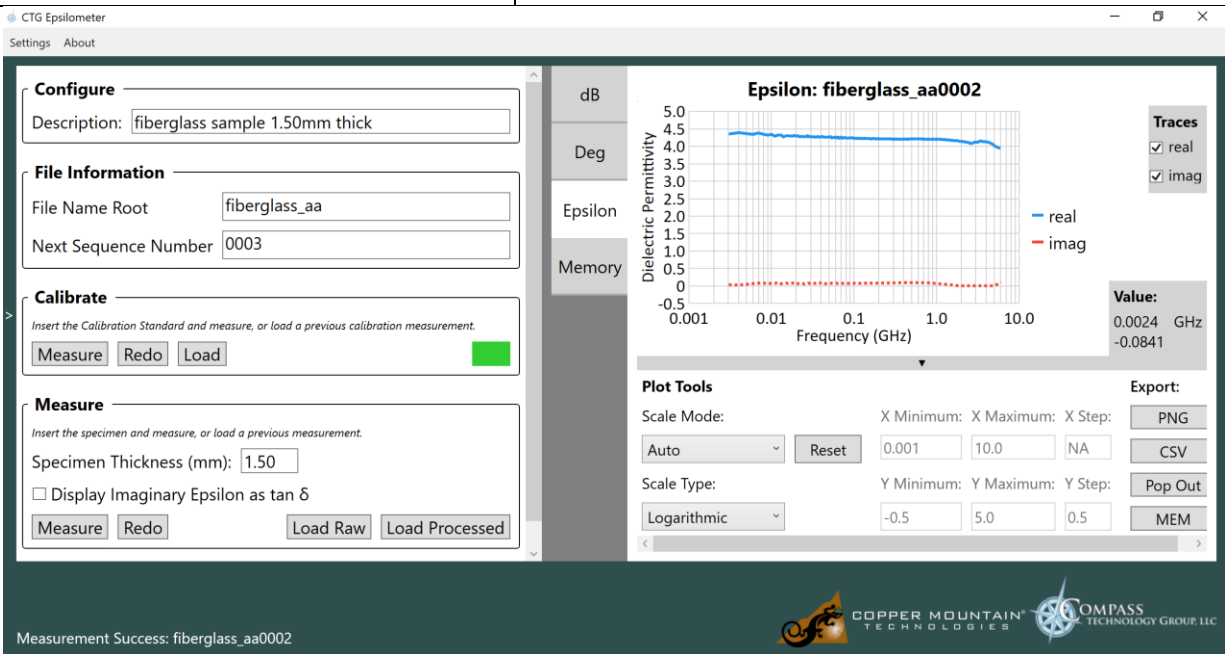

Figure 15. Measure Epsilon
5. Click “Measure” in the “Measure” Group Box to measure the dielectric permittivity of the specimen. (Figure 15)